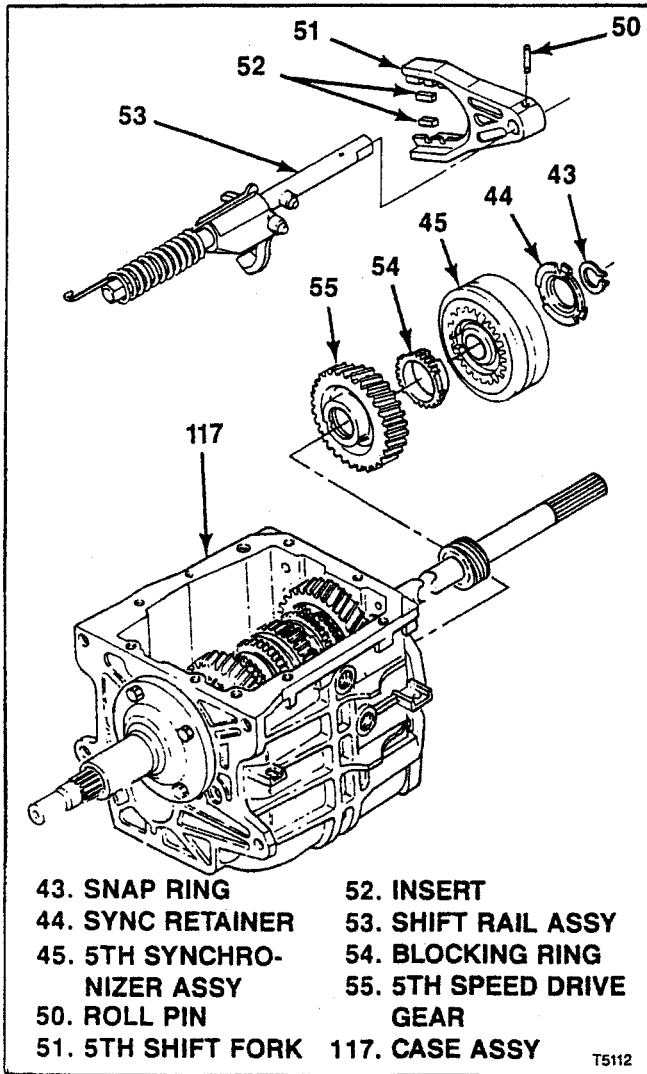

Figure 3-5. T5 WC 5th Synchronizer, Shift Fork and Gear
- a. From inside transmission assembly, remove retaining ring (39).
- b. From outside transmission, remove pivot pin (40) and back-up switch (41).
- c. Work 5-R shift lever (42) out of engagement and lift out top of transmission case (117).
3-11. REMOVAL OF T5 WC 5TH SYNCHRONIZER, SHIFT FORK AND GEAR. At rear of transmission case (117), remove parts as follows (see figure 3-5):
- a. Remove snap ring (43) and 5th synchronizer retainer (44).
- b. Simultaneously pull 5th synchronizer assembly (45) and 5th shift fork (51) with attached shift rail assembly (53).
- c. To separate 5th shift fork (51) and shift rail assembly (53), drive out roll pin (50). Remove inserts (52) from fork.